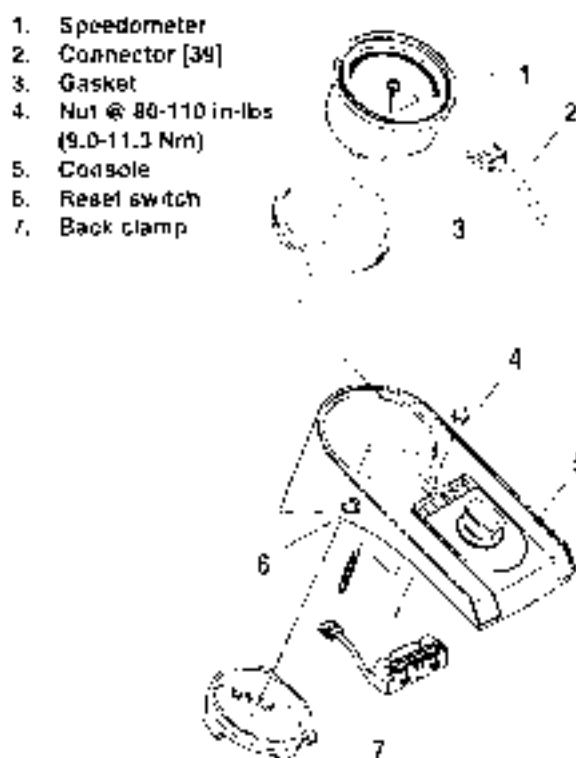
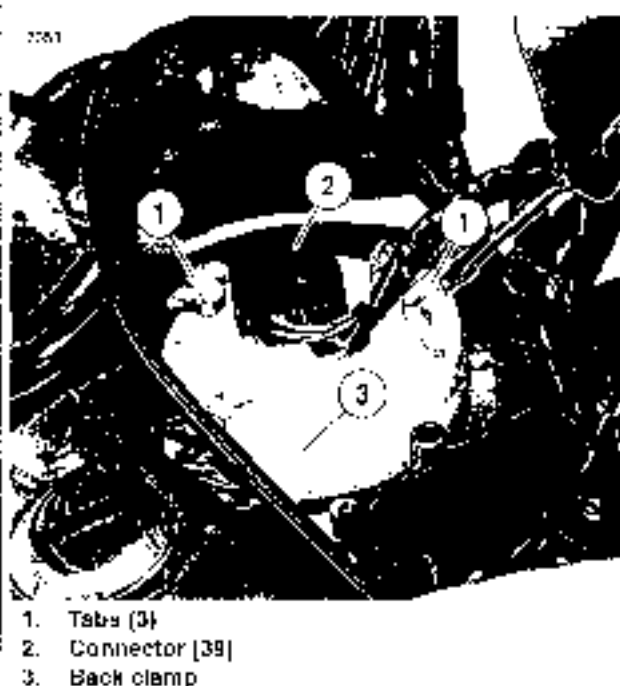

Figure 8-53. Speedometer: FXDWG
Figure 8-54. FXDWG Connector [39]
1. See Figure 8-53. Remove nut (4), and lift console (5) from fuel tank.
3. Depress connector tab and disconnect 12 place harness connector (2) [39] from speedometer under console.
4. Unscrew the rubber boot from the odometer reset switch (6) on the left side of the console.
6. See Figure 8-54. Pry between three tabs and speedometer with a screwdriver to raise and release back clamp from speedometer. Remove back clamp from speedometer.
7. See Figure 8-53. Remove speedometer from console.
8. Remove gasket (3) from speedometer.
1. See Figure 8-53. Install gasket (3) to speedometer.
2. Position speedometer in console (5).
3. See Figure 8-54. Press on back clamp (3) until three tabs engage on back of speedometer.
4. See Figure 8-53. Insert odometer reset switch (6) through hole in console and install rubber boot.
5. Connect 12-place connector (2) [39] to speedometer under console.